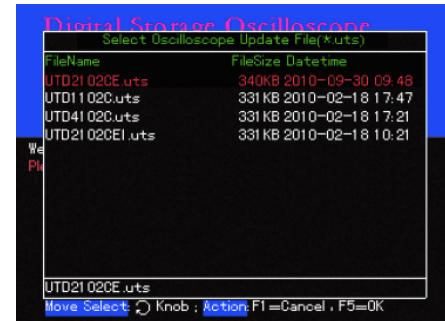

Figure 5-2 Selection of the USB upgrade document
- When **[F5]** is pressed as shown in Figure 5-2, the prompt on the right will appear: "Are you sure you wish to update? If yes, press **[F5]**, otherwise press **[F1]** to cancel upgrade".